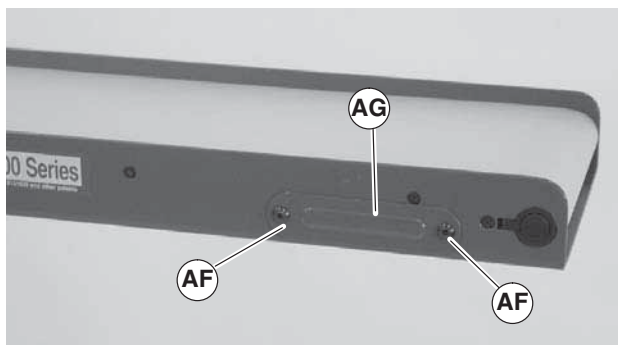

Figure 16
- a. Remove screws (Figure 16, item AF) and tension pin covers (AG) on both sides of conveyor.